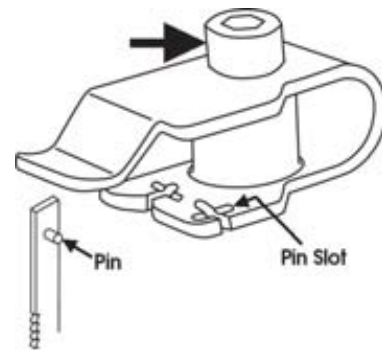

Fig. 3
- 2.3 Apply a slight downward pressure on the upper arm whilst holding the blade firmly, allowing the pins at the top of the blade to be disengaged from the recesses in the upper blade holder - see fig 3. It is now a simple matter to disengage the blade pins from the lower blade holder and lift the blade out through the access hole in the table.
- 2.5 Slacken off the single hex. socket head screws securing the upper and lower blade holders, (arrowed in fig 3), so that the holders move freely, using the hex socket wrench supplied.
**The blade slots and pin recesses are made so you can position the blade for cutting from the front, or from the side (see figs. 3). Cutting from the side is necessary when your workpiece is over 16" long.**